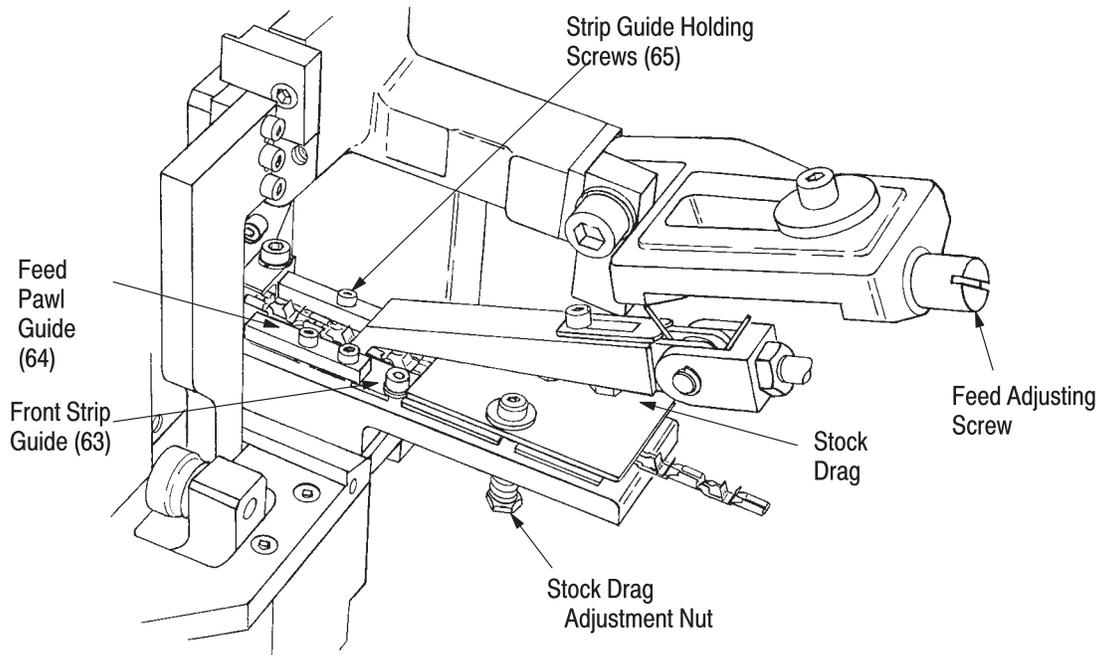

Figure 7
9. Loosen all 8 screws holding strip guides, and move both guides in desired direction. Tighten the screws and check to be sure guides are parallel and that the terminal strip can move freely without too much side clearance. Recheck side-to-side centering by repeating Step 8. See Figure 7.
1. Turn the stock drag adjustment nuts up to increase the drag or down to decrease the drag. See Figure 7.
5.6. Strip Guide Adjustment (Refer to Drawing No. 819528-1 and Figure 7)